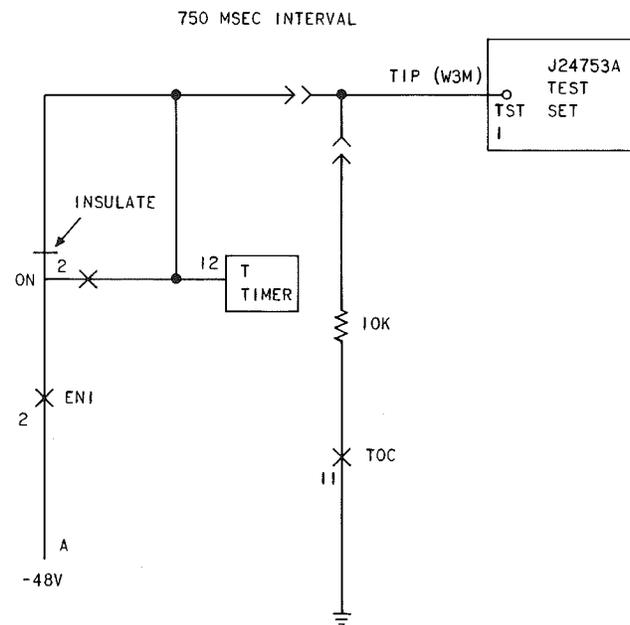

Fig. 4—Typical Connections Using J24753A Test Set for Timing Tests for Test A
3.16 On J24753A test set, insert W3M cord in TST1 jack. Using TIP of cord connect to 12 of T timer on J1G024A unit and contact 11 of TOC relay. (See Fig. 4). Insert a 10K resistor between 11 of TOC relay and the tip of the W3M cords.